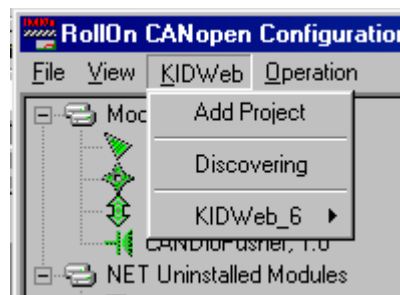

Fig. 5.2
- Click on **KIDWeb** menu to open the drop-down box shown in Fig. 5.2 – the lowest item displays the name of the selected KID Web (in our case KIDWeb_6).
This is accomplished by using **Discovering** item on the drop-down list shown in Fig. 5.2.